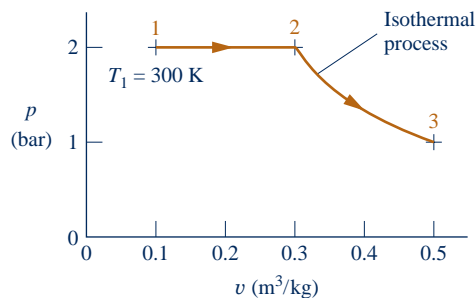

Fig. P3.137
- 3.137** Air contained in a piston-cylinder assembly undergoes two processes in series, as shown in Fig. P3.137. Assuming ideal gas behavior for the air, determine the work and heat transfer for the overall process, each in kJ/kg.